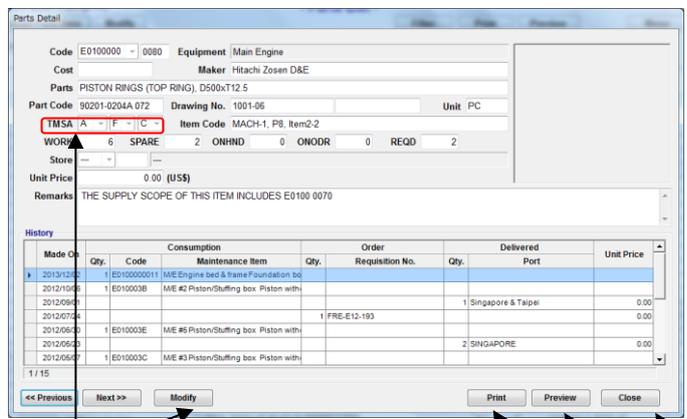

Fig.12-3 Parts Dialog
- (3) Select item and click [Detail Parts Data], “Parts Dialog” ( Fig.12-3) is displayed.
- (4) If you want to modify, only SMS category can be changed.
- (5) If you want to print, select [Print].
- (6) If you want to see preview, select [Preview].
- (7) If you want to close screen, select [Close].
- (8) Select operation button of [shortage].